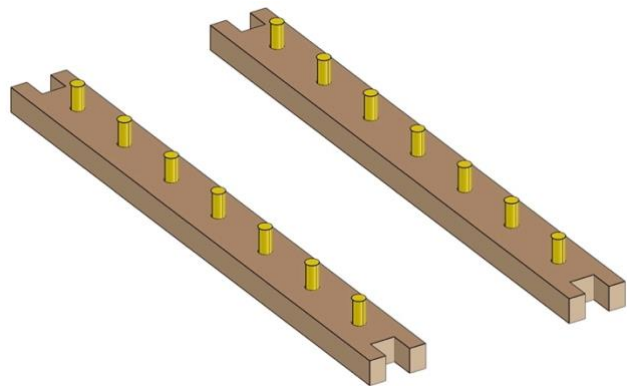

Fig. 72
- Fig. 72 shows the completed process (make two parts).